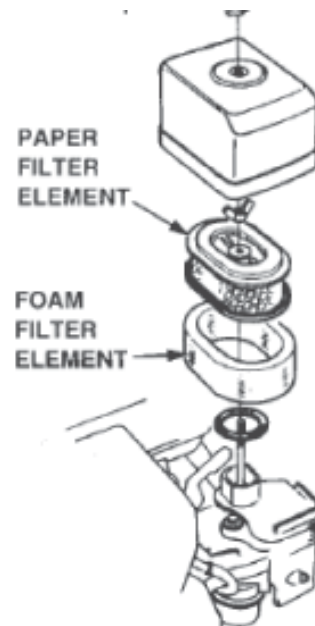

Figure 15. Air Cleaner
2. To clean or replace air filter loosen the wing nut on the air filter housing (Figure 15), remove the cover and take out air filter cartridge. If only cleaning of the air filter is desired blow through the air filter cartridge from the inside, moving a jet of dry compressed air up and down until all dust is removed.